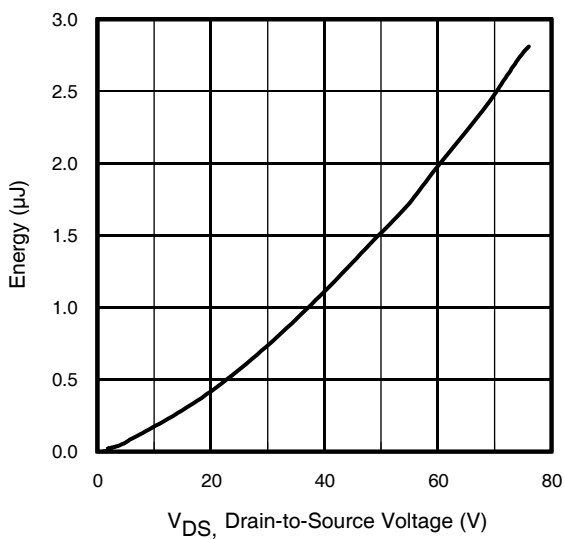

Fig 11. Typical C_{OSS} Stored Energy
| C _{oss eff. (ER)} | Effective Output Capacitance (Energy Related)⑦ | — | 1090 | — | | V _{GS} = 0V, V _{DS} = 0V to 60V ⑧, See Fig. 11 |